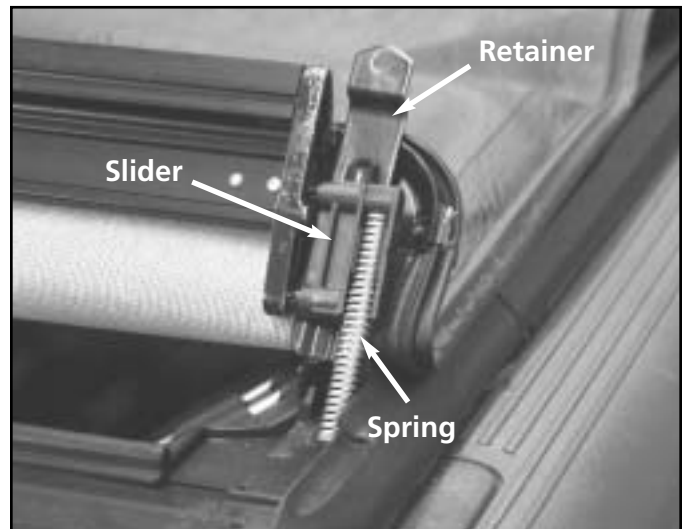

Figure S-25
2. Remove the slider retainers and pull the cover back and up in order to expose the motor cover. See figure S-25.
12. Fold the tonno cover over the rail and install the sliders, slider springs and slider retainers into the front rail. Refer back to figure S-25.